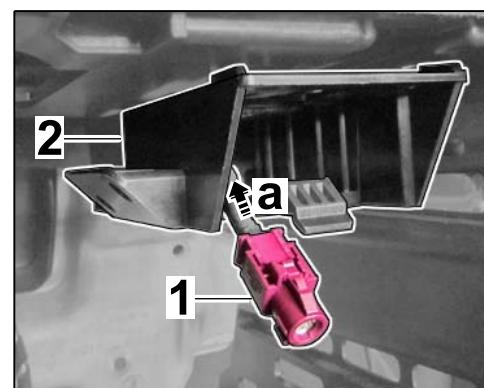

Figure 16
4.3.2 Pull back connecting line \Rightarrow Figure 16-a- until the violet connector \Rightarrow Figure 16-1- is at the USB/iPod control unit holder \Rightarrow Figure 16-2-.